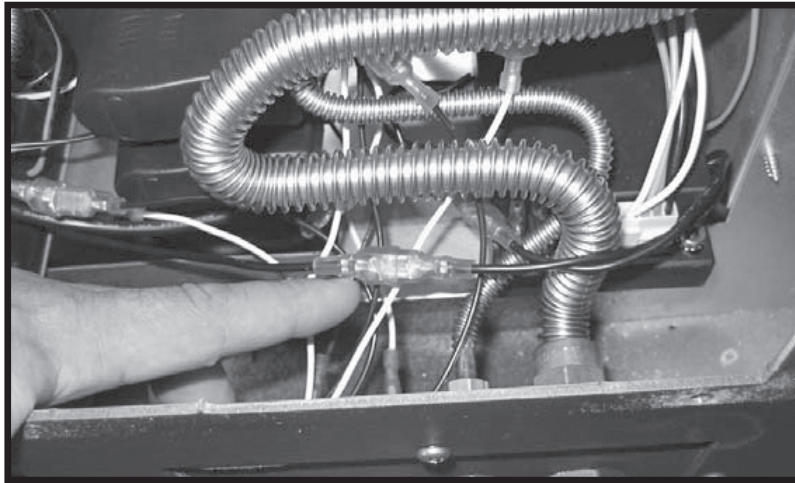

Figure 8: Connecting modules.
4. Connect the two modules in series by connecting a male connector from black wire loop from the one module to the female connector from the black wire loop on the other module (Figure 8).